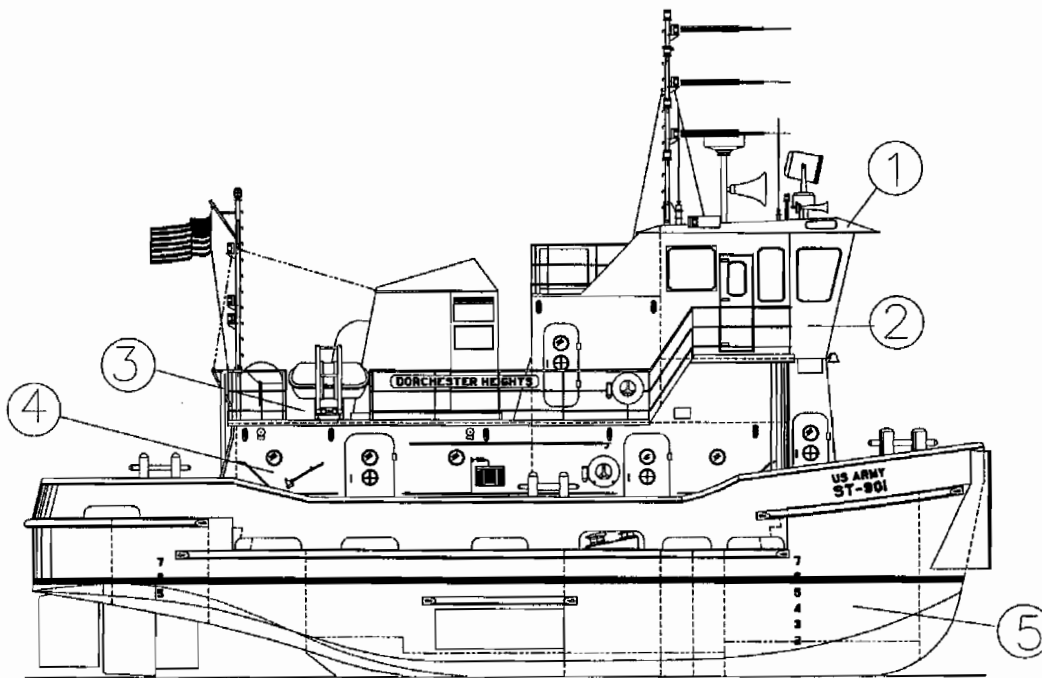

Figure 1-1. Deck Levels
a. Decks (Overview). The ST decks are described below and are delineated in Figure 1-1 .
- (1) Pilot House Overhead (Item 1)
- (2) Pilot House Deck (Item 2)
- (3) 01 Deck (Item 3)
- (4) Main Deck (Item 4)
- (5) Hold Deck (Item 5)